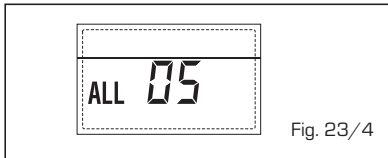

Fig. 23/4
**- BLOQUEO LLAMA "ALL 06" (fig. 23/5)**